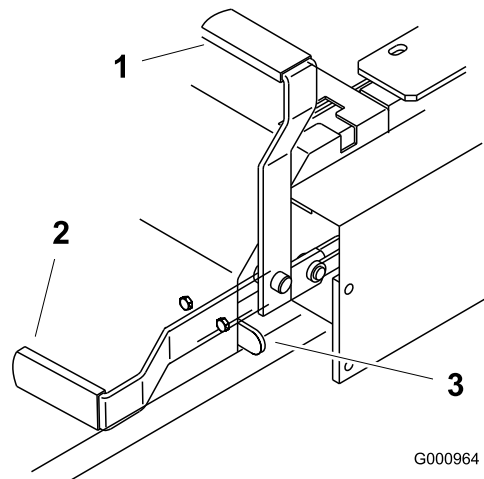

Figure 11
2. Pull up and back on the parking-brake lever to set the parking brake (Figure 11). The parking-brake lever should stay firmly in the engaged position.
Push forward and down on the parking-brake lever to release the parking brake (Figure 11). The parking brake is disengaged and the lever will rest against the brake stop.